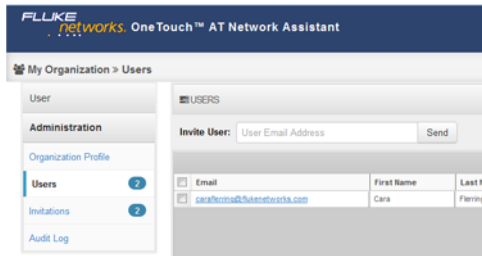

Figure 92. Users Page with Users List
- 3 Select **Users** from the Settings menu (top-left of the screen), see Figure 92. Enter the new user's email address into the **Invite User** field.